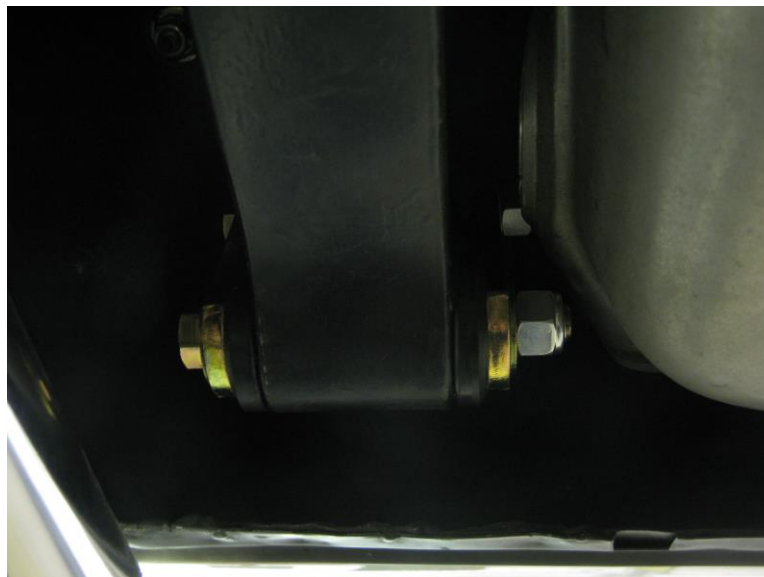

Figure 4 - Rear Leaf Spring Shackles Installed
5. Move to the rear leaf springs; install the rear shackles and 1/2"-20 x 5"L Hex Head bolts to mount the leaf springs to the frame using the 1/2" Nylock nuts and AN washers. Install the bolts from the outside of the frame rail so that your Nylock nuts will be on the inside closest to the fuel tank. [See Figure 4]